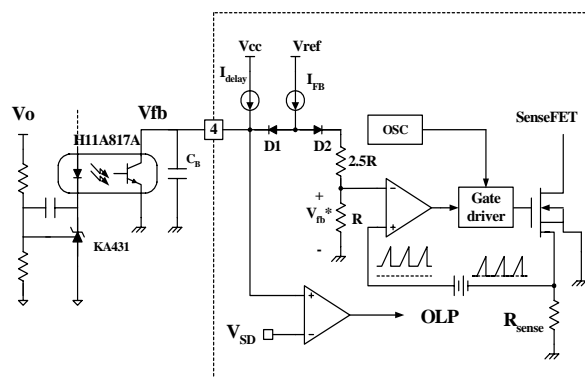

Figure 5. Pulse width modulation (PWM) circuit
2. Feedback Control : FSDM0565RB employs current mode control, as shown in Figure 5. An opto-coupler (such as the H11A817A) and shunt regulator (such as the KA431) are typically used to implement the feedback network. Comparing the feedback voltage with the voltage across the Rsense resistor plus an offset voltage makes it possible to control the switching duty cycle. When the reference pin voltage of the KA431 exceeds the internal reference voltage of 2.5V, the H11A817A LED current increases, thus pulling down the feedback voltage and reducing the duty cycle. This event typically happens when the input voltage is increased or the output load is decreased.
2.1 Pulse-by-pulse current limit: Because current mode control is employed, the peak current through the Sense FET is limited by the inverting input of PWM comparator (V_{fb}^*) as shown in Figure 5. Assuming that the 0.9mA current source flows only through the internal resistor ($2.5R + R = 2.8 k\Omega$), the cathode voltage of diode D2 is about 2.5V. Since D1 is blocked when the feedback voltage (V_{fb}) exceeds 2.5V, the maximum voltage of the cathode of D2 is clamped at this voltage, thus clamping V_{fb}^* . Therefore, the peak value of the current through the Sense FET is limited.